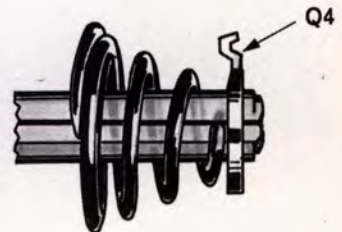

Fig. 22.
7. Place stop washer Q4 on stud so that its extension points upward away from machine on tension stud as shown in Fig. 22.